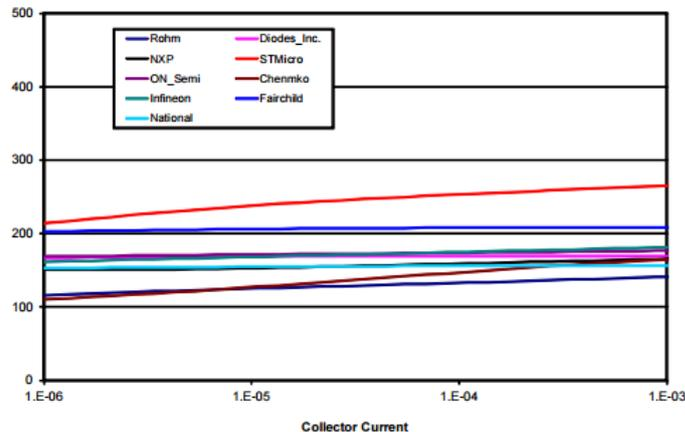

Figure 3.1 Typical Beta Values for 2N3904 Transistors at 23°C (the Microchip lab data)
Transistors parameters that affect temperature measurements accuracy (remote accuracy) are the forward current gain  $\beta$  (I) and series resistance  $R_s$ . Based on the Microchip lab data for 2N3904 those parameters have a small effect on temperature measurement accuracy over the entire sensor's sourced current range (4.5-920uA). [1] Figure 3.1 shows the typical beta values of transistors tested by Microchip and can be used as a typical representation for the limited quantity of 2N3904 transistors. [1]